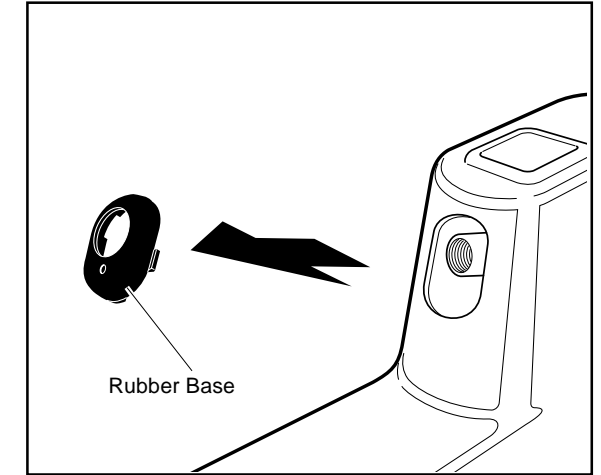

Fig. 6
6. Remove the rubber base of the seat post knob. (Fig. 6)